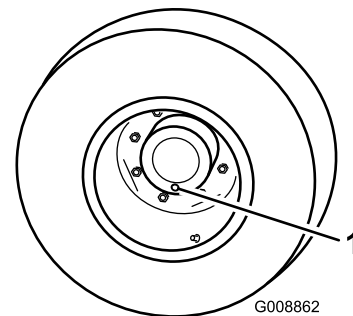

Figure 104
1. With the machine on a level surface, position a wheel so a check plug is at the lowest (6 o'clock) position (Figure 104).